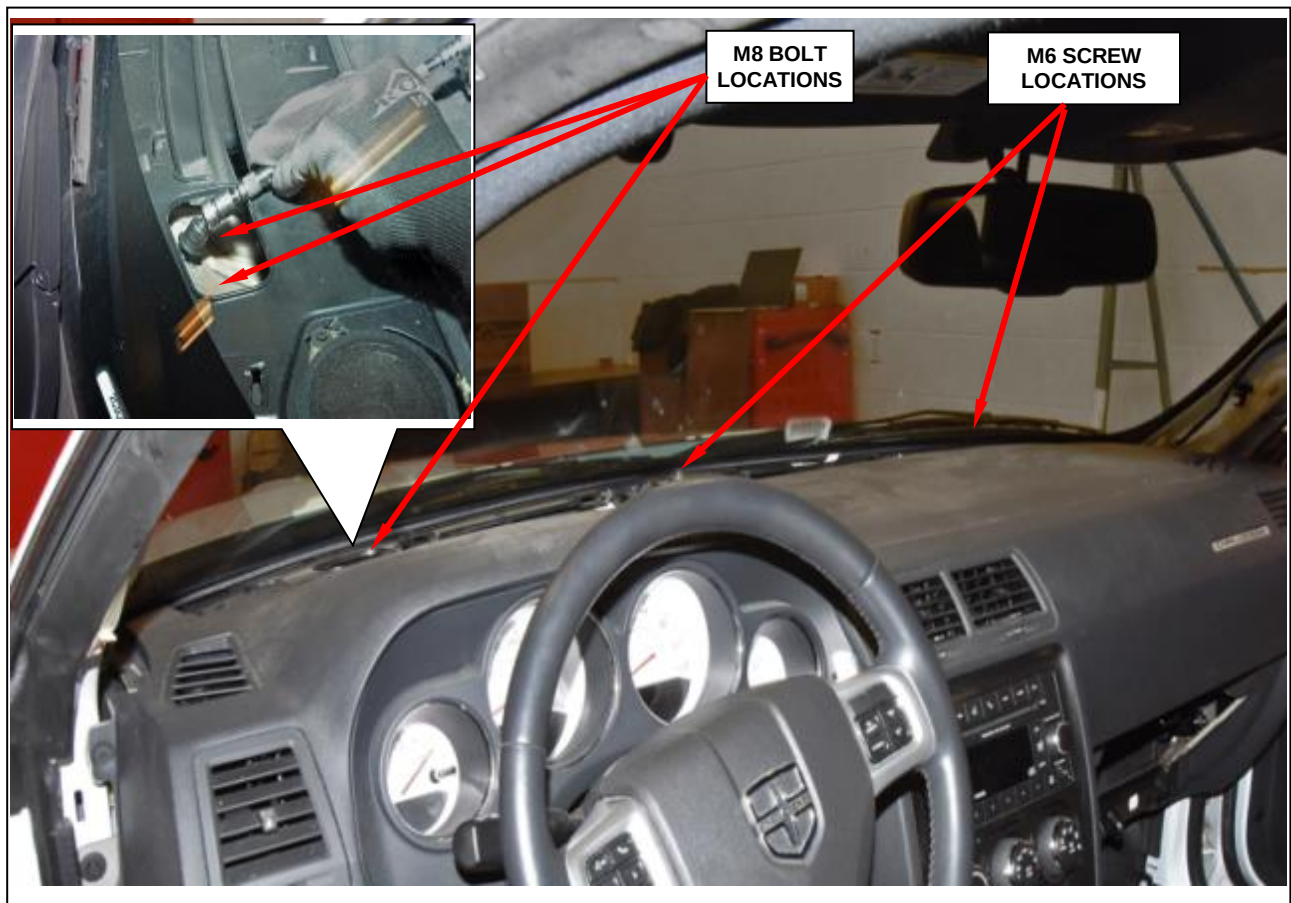

Figure 93 – Top Instrument Panel Fasteners
21. Remove the two pushpins that secure the passenger side instrument panel silencer to the instrument panel bracket (Figure 93).